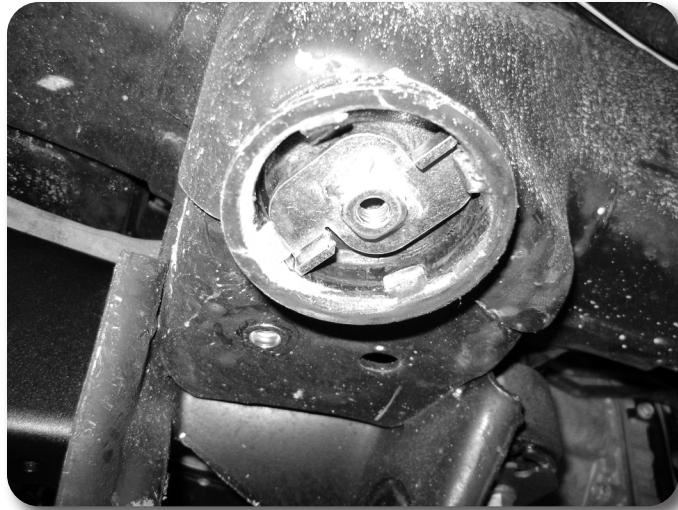

Figure 24
37. Locate the rear bump stop brackets and two nut plates. Install the nut plates in the factory bump stop cups so the tabs point down and lock in place against the tabs in the cup. **Figure 24** Attach the bump stop bracket to the factory mount with a 3/8" x 1" bolt, flat washer and lock washer into the nut plate. Snug hardware. Fasten the back tab of the bracket to the rivet nut with a 3/8" x 1-1/4" bolt, flat and lock washer. Torque 3/8" hardware to 30 ft-lbs.